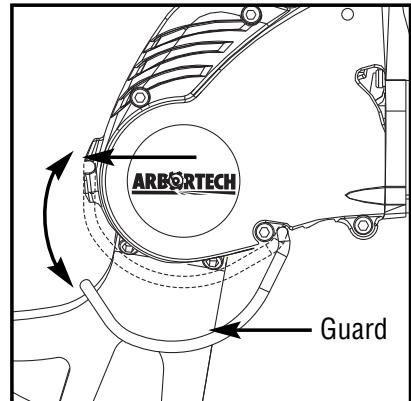

Fig.1
- Before changing blades, the guard around the blade mounts must be levered gently out of its groove at the front of the tool and swung away to give access to the cap screws. (See Fig.1)